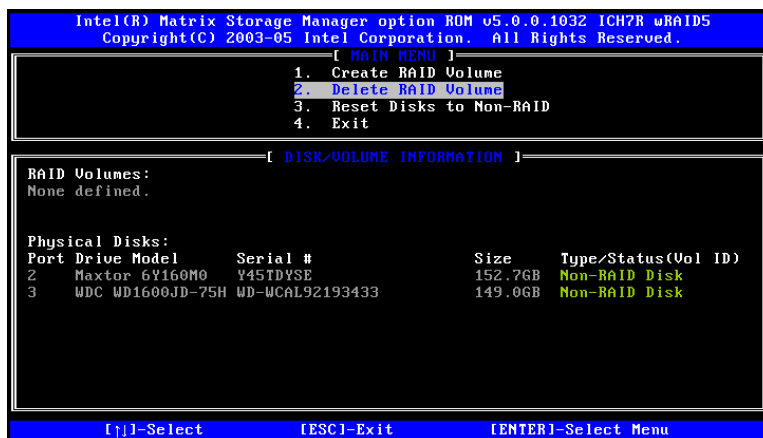

Figure F-11: Non-RAID Disks
**Step 4: Non-RAID Disks.** After deleting the RAID volume, the disks belonging to the volume will be shown as non-RAID disks. See **Figure F-11**.